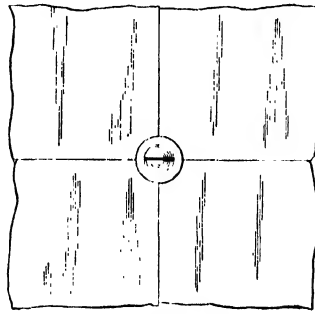

Fig. 558.
Figs. 558 and 559.—Screwing Tiles to Wood Back.
**Fixing Tiles in Washstand Back.**—Unless the back frame is iron, and rigid, the tiles cannot be cemented in with any great degree of success. White-lead or glaziers' putty, made into a rather pasty condition with boiled linseed oil, must be used. The background will first have to be thickly painted and the tiles bedded on while the paint is sticky. A good time must be allowed for drying. The best method of fixing tiles on a wood back is to use round-headed screws at the corners as illustrated by Figs. 558 and 559.